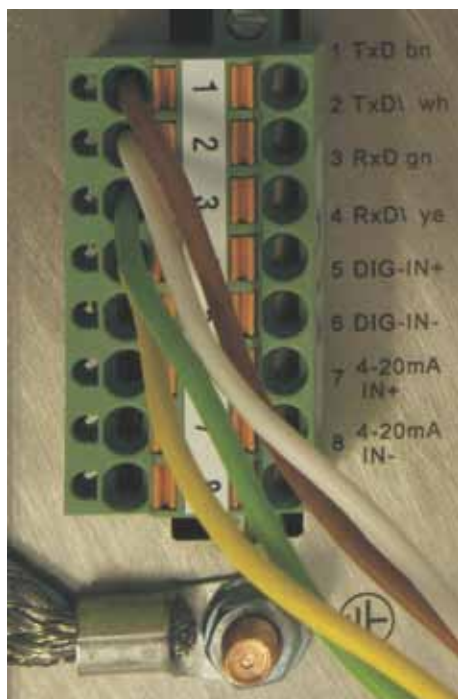

Fig. 86: Connecting bus cable
1. Connect the conductors of the bus cable according to Fig. 86. For details refer to the respective terminal diagrams.